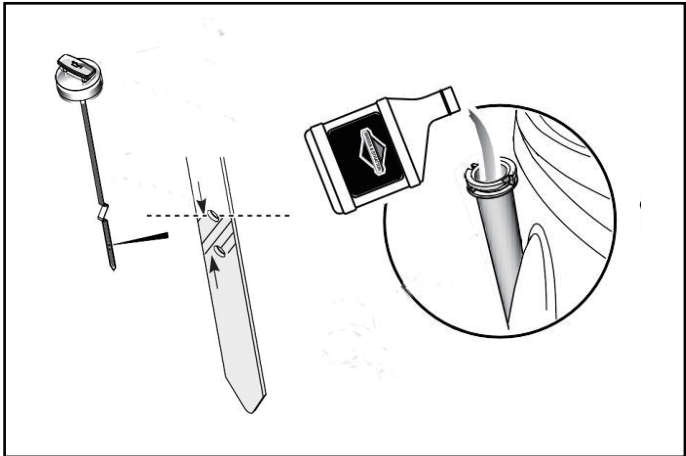

Fig. 12
7. If the oil level is LOW, add oil into the oil fill tube.(Fig. 12)